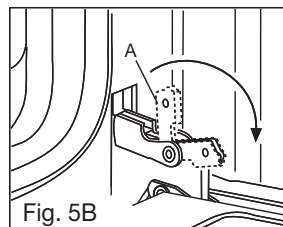

Fig. 5B
- 2 flip the hinge hooks "A" outwards (see fig. 5B).